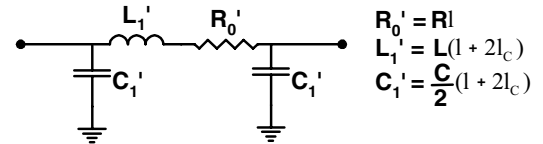

Figure 13b: Equivalent circuit of chipresistor
The equivalent circuit then becomes that shown in **Figure 13b**. (We neglect, as earlier, G compared to ωC .) Note that the circuit contains both inductance and capacitance parasitics, though most vendors electrically characterize a chip resistor only by the latter. C_1' is then given by half the value calculated in (14), while L_1' is given by